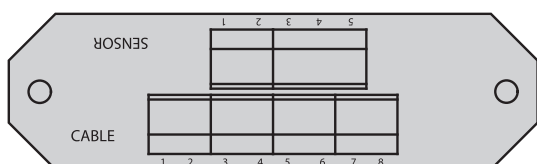
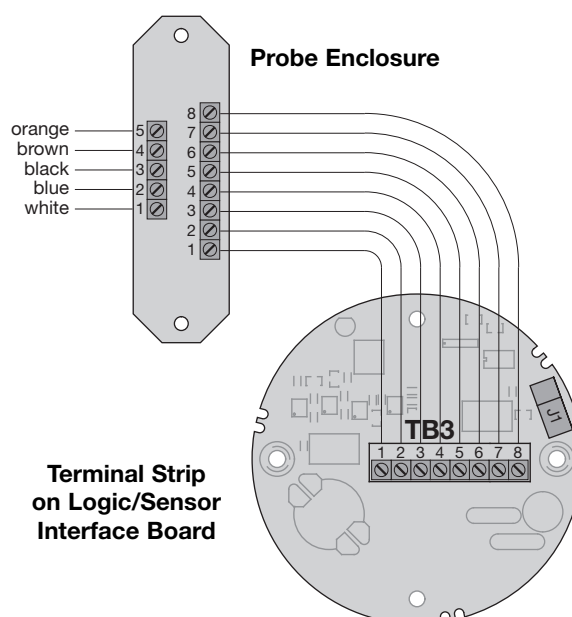

Figure 4
Figure 5
The probe housing contains a terminal block for ease of wiring between the probe and the electronics. Connections from the probe to the terminal strip are prewired at the factory. An 8-wire shielded interconnecting cable (Belden 8104) from the probe housing to the instrument is required. Refer to Figure 4 for wiring connections in the probe enclosure. The connections to the circuit board are located in the main electronics shown in Figure 5.
4. Unplug the electrical connections at J1. Refer to Figure 5.
5. Probe wiring connections are made to TB3 on the back side of the power supply PCB assembly. Refer to Figure 5.